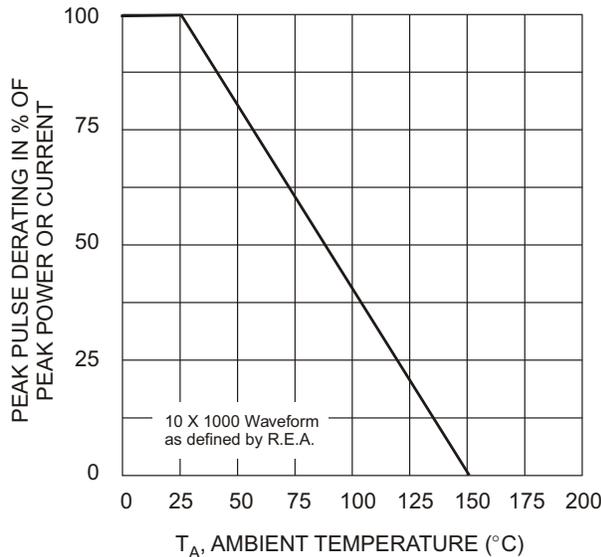
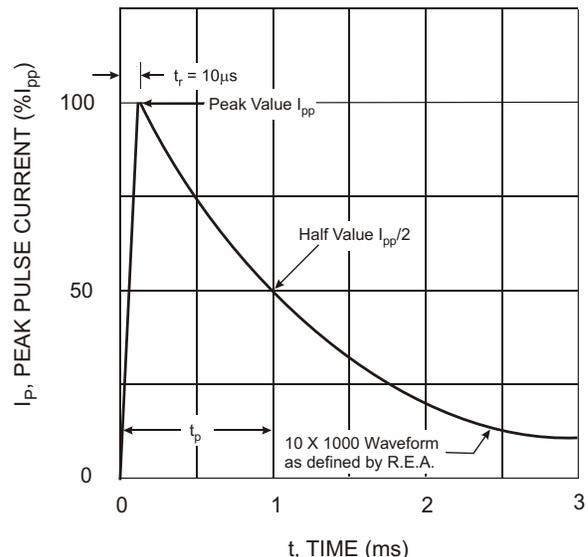

Fig. 1 Pulse Derating Curve
Fig. 2 Pulse Waveform
- Non-repetitive current pulse per Figure 2 and derate above $T_A = 25$ C per Figure 1.